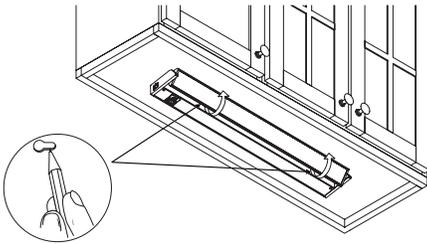

Figure 14
2. Locate the mounting holes slot on the back of the fixture and mark narrow ends of the keyhole slots on the mounting surface (fig. 14).